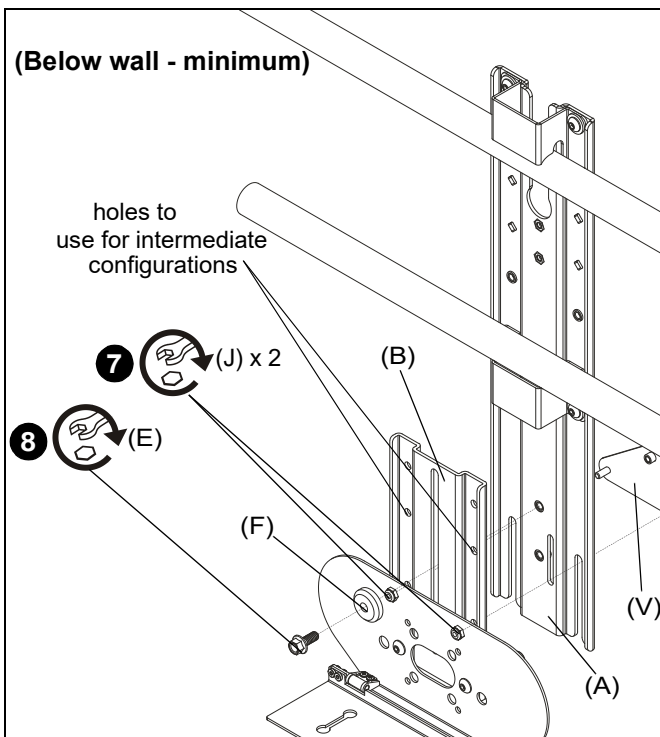

Figure 6
7. (For **minimum/intermediate extension**) Use two #10-24 lock nuts (J) to secure upright bracket (A) to main bracket (B) and adapter plate (H). (See Figure 6)
**NOTE:** Camera shelf (D) may need to be temporarily removed in order to attach lock nuts (J) for minimum extension.
8. (For **minimum/intermediate extension**) Use 1/4-20 x 5/8" hex head flange bolt (E) and center washer (F) to secure upright bracket (A) to main bracket (B). (See Figure 6)